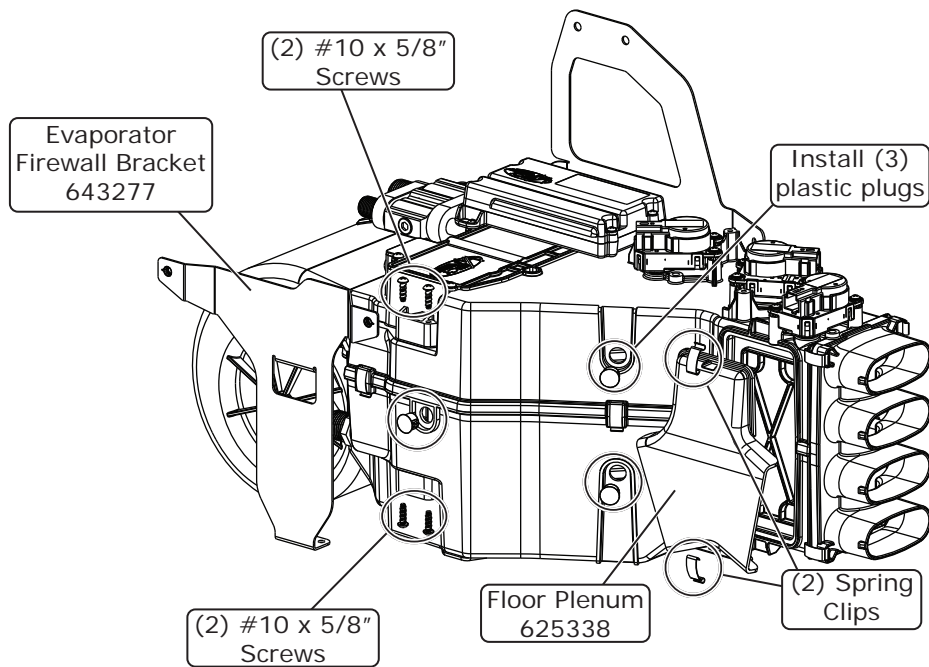

Figure 2
5. Install (3) plastic plugs in the locations shown in Figure 2, below.
6. Install the floor plenum onto the evaporator module with (2) spring clips (See Figure 2, below).
7. Install the evaporator firewall bracket onto the evaporator module with (4) #10 x 5/8" screws (See Figure 2, below).